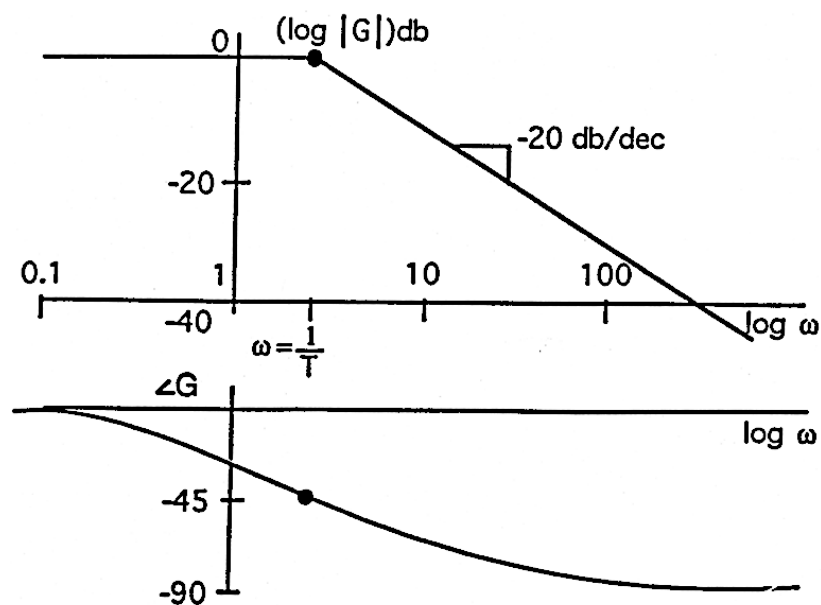
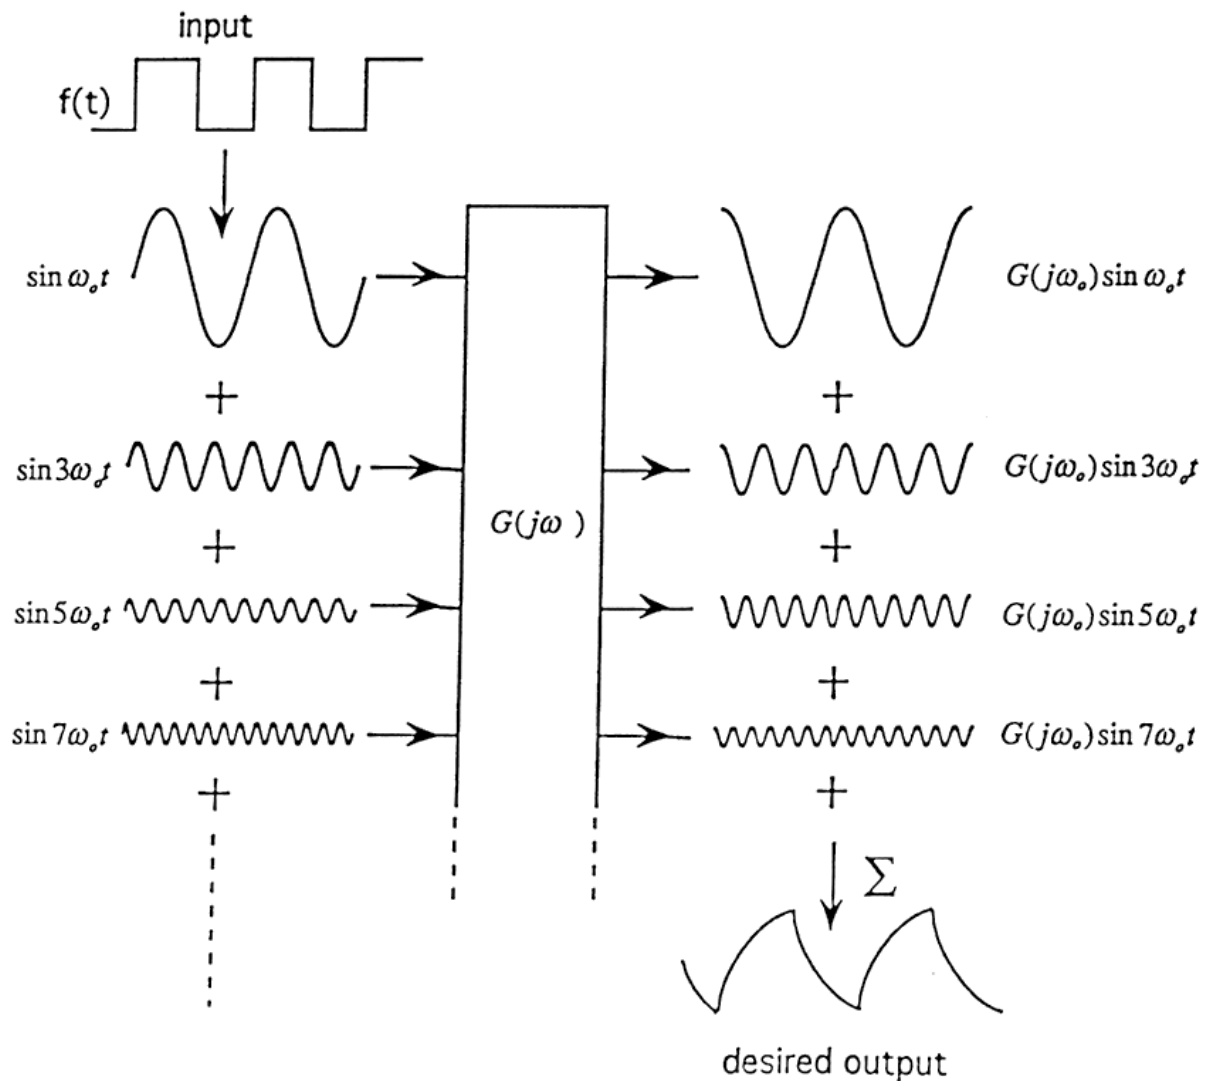
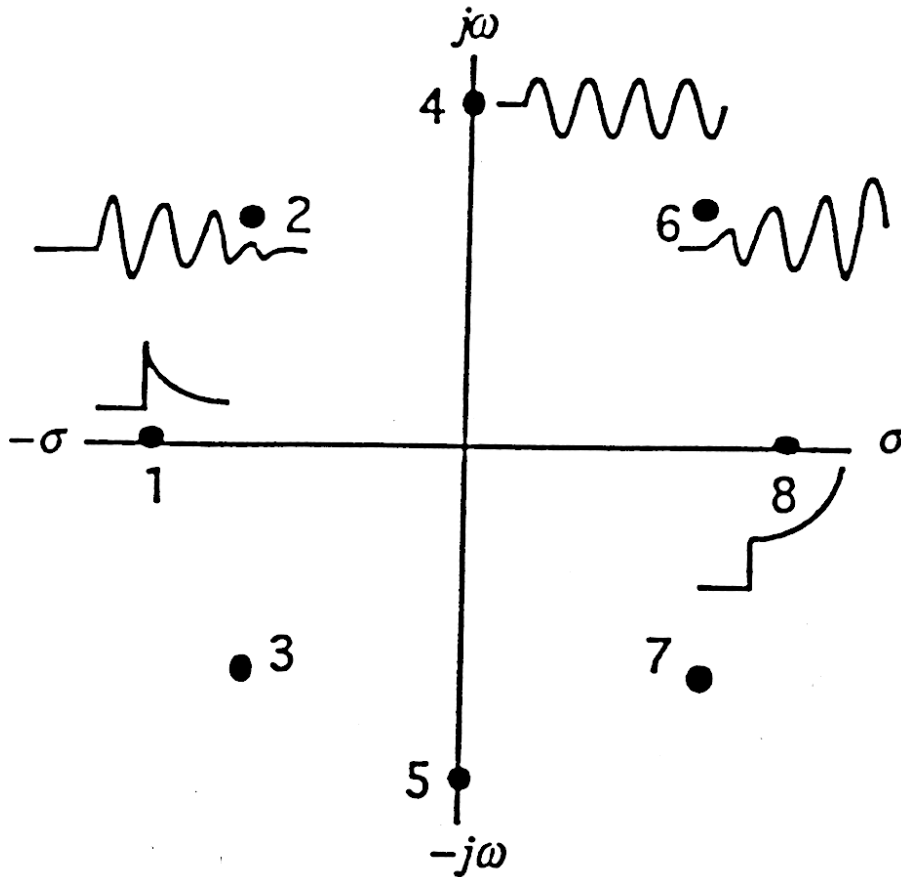

Figure 6
Figure 8
Figure 10
Below this frequency, $\log(|G|)$ can be closely approximated by a horizontal straight line at zero ($\log(1)=0$). At high frequencies, above $\omega = 1/T$, $|G|$ falls off in another straight line with a slope of -20db/dec, which means it falls by 10 (20db) if ω increases by 10. The phase is a linear-log plot. The main point in Fig. 6 is a very simple way to portray what this lag element does to sine wave inputs ($e^{j\omega t}$) of any frequency.
This is illustrated in Fig. 8. The input $f(t)$ (the square wave is only for illustration) is *decomposed* into the sum of a lot of *harmonics* on the left using (9) to find their amplitudes. Each is passed through $G(j\omega)$. $G(jk\omega_0)$ has a *gain* and a *phase shift* which, if $G(j\omega)$ is a first-order lag, can be calculated from (6) and (7) or read off the Bode diagram in Fig. 6. The resulting sinusoids $G(jk\omega_0) \sin k\omega_0 t$ can then all be added up as on the right to produce the final desired output shown at lower right.
Fig. 8 illustrates the basic method of all transforms including Laplace transforms so it is important to understand the concept (if not the details). In different words, $f(t)$ is taken from the *time domain* by the *transform* into the *frequency domain*. There, the *system's transfer function* operates on the frequency components to produce *output components* still in the *frequency domain*. The *inverse transform* assembles those components and *converts* the result back into the *time domain*, which is where you want your answer. Obviously you couldn't do this without *linearity* and *superposition*. For Fourier series, eq (9) is the transform, (8) is the inverse.
One might object that dealing with an infinite sum of sine waves could be tedious. Even with the rule of thumb that the first 10 harmonics is good enough for most purposes, the arithmetic would be daunting. Of course with modern digital computers, the realization would be quite easy. But before computers, the scheme in Fig. 8 was more conceptual than practical.
In terms of Fig. 8, everything is conceptually the same except we now have all possible frequencies - no more harmonics. That sounds even worse, computationally, but if we can express $F(\omega)$ mathematically, the integration in (13) can be performed to get us back into the time domain. Even if it can't, there are now *FFT* computer programs that have a *fast* method of finding the *Fourier transform*, so using this transform in practice is not difficult.
You already know the formulas (2a, 2b), and how to use them. So here we discuss them in terms of Fig. 8 and superposition.
Fig. 10 is a view of the s -plane with its real axis (σ) and imaginary axis ($j\omega$). At point 1, $\omega=0$ and $-\sigma$ is negative so $e^{st}=e^{-\sigma t}$, which is a simple decaying exponential as shown. At points 2 and 3 (we must always consider pairs of complex points - recall from (10) that it took an $e^{j\omega t}$ and an $e^{-j\omega t}$ to get a real $\sin \omega t$ or $\cos \omega t$) we have $-\sigma < 0$ and $\omega \neq 0$, so $e^{-\sigma t} e^{j\omega t}$ is a damped sine wave as shown. At points 4 and 5, $\sigma=0$ so we are back to simple sine waves. At points 6 and 7, $\sigma > 0$ so the exponential is a rising oscillation. At 8, $\sigma > 0$, $\omega=0$ so we have a plain rising exponential. So Fig. 10 shows the variety of waveforms represented by e^{st} .
So (15) says that $f(t)$ is made up by summing an infinite number of infinitesimal wavelets of the forms shown in Fig. 10. $F(s)$ tells you how much of each wavelet e^{st} is needed at each point on the s -plane. That weighting factor is given by the transform
In terms of Fig. 8, $f(t)$ is decomposed into an infinite number of wavelets as shown in Fig. 10, each weighted by the complex number $F(s)$. They are then passed through the transfer function G which now is no longer $G(j\omega)$ (defined only for sine waves) but $G(s)$ defined for $e^{\sigma t} e^{j\omega t}$. The result of $F(s)G(s)$ which tells you the amount of e^{st} at each point on the s -plane contained in the output. Using (15) on $F(s)G(s)$ takes you back to the time domain and gives you the output. If, for example, the output is $h(t)$ then